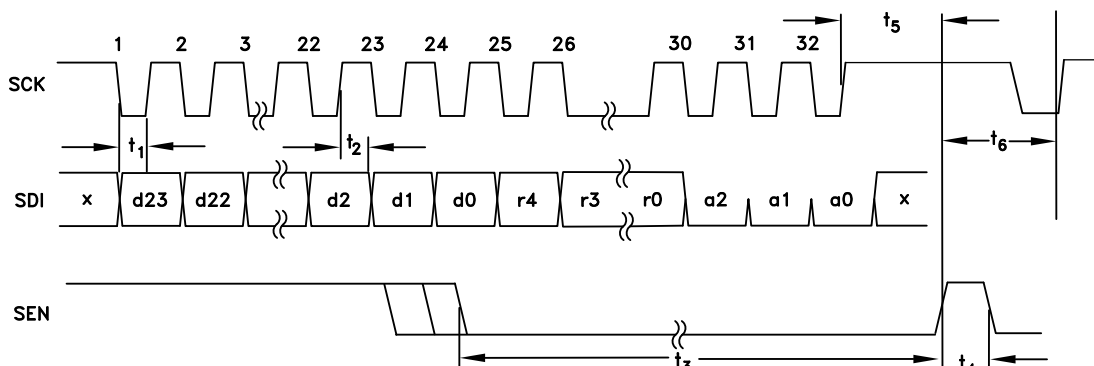
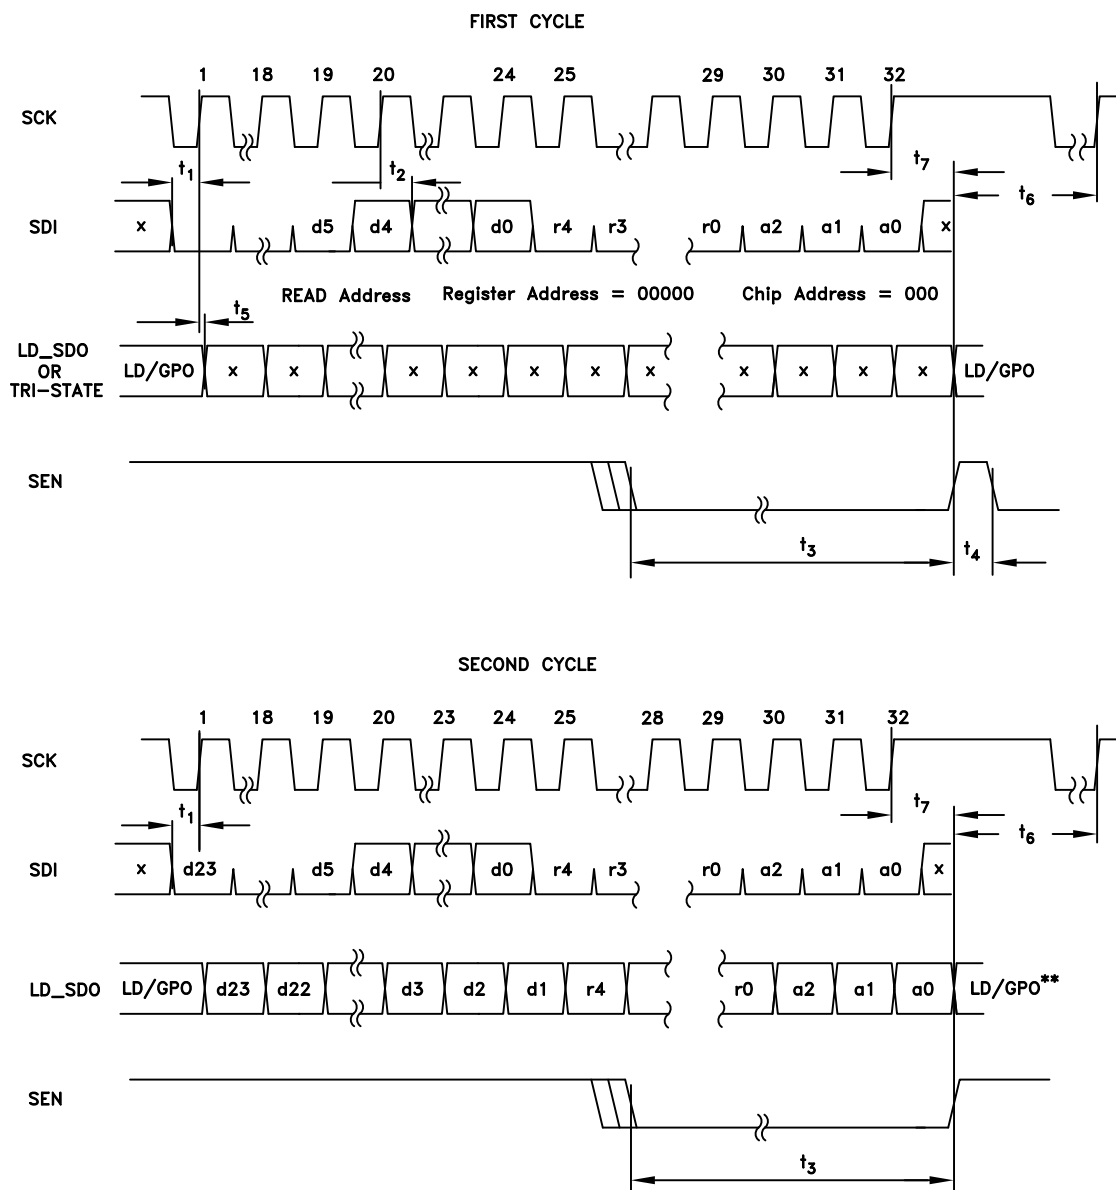

Figure 26. Open Mode - Serial Port Timing Diagram - WRITE
Figure 27. Serial Port Timing Diagram - READ
The Serial Port Open Mode, shown in Figure 26 and Figure 27, features:
A typical WRITE cycle is shown in Figure 26.
A typical READ cycle is shown in Figure 27.
- a. The Master (host), on the first 24 falling edges of SCLK places 24-bit data, d23:d0, MSB first, on SDI as shown in Figure 27. d23:d5 should be set to zero. d4:d0 = address of the register to be READ on the next cycle.